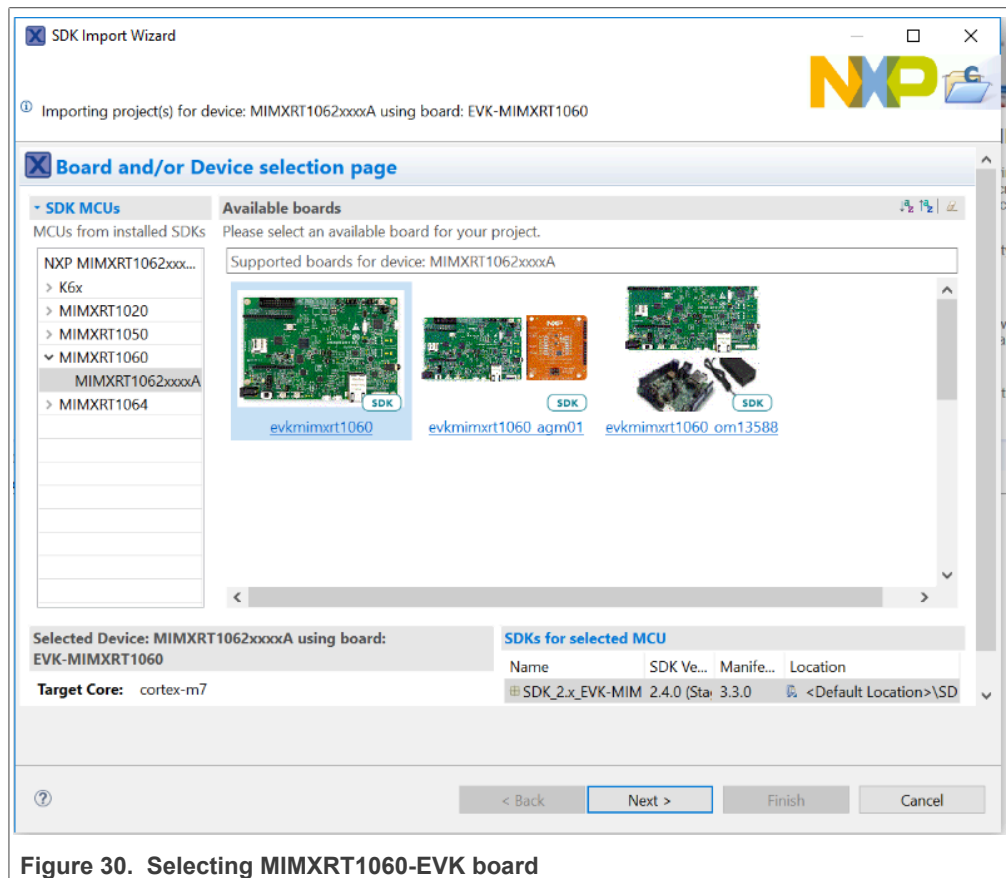

Figure 30. Selecting MIMXRT1060-EVK board
3. In the window that appears, expand the **MIMXRT1060** folder and select **MIMXRT1062xxxxx**. Then, select **evkmimxrt1060**, and click **Next**, as shown in Figure 30.